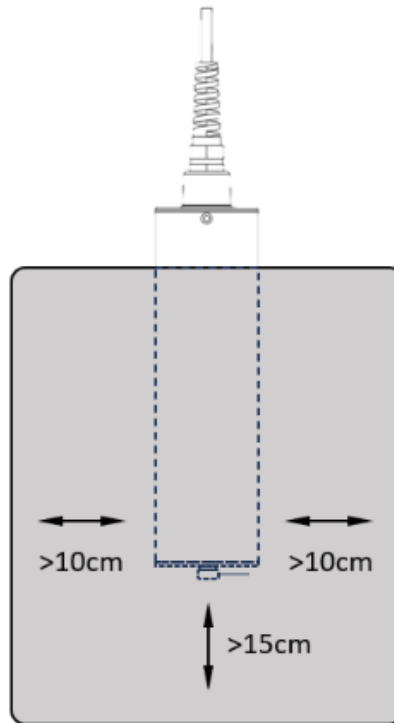

Figure 7A – Light Covered Oversized Bucket for Calibration with Sensor >15cm from bottom and >10cm from wall
2. Insert the sensor in an opaque oversized bucket and away from direct sunlight. The LT-63X series sensor should be calibrated with a minimum distance of >15cm from the bottom of water container to the lens of the sensor and a minimum of >10cm from the vessel wall on all sides. (as shown in Figure 7A). Add bubble-free deionized water or water with <1.0NTU of turbidity container and wait for the sensor reading to stabilize.
2. Remove and insert the LT-63X series sensor into an opaque oversized bucket and away from direct sunlight and >15cm from container bottom and walls (as shown in Figure 7A) and add the midpoint calibration solution (Please refer to the table in the previous section for the midpoint turbidity calibration range).
2. Remove and insert the LT-63X series sensor into an opaque oversized bucket and away from direct sunlight and >15cm from container bottom and walls (as shown in Figure 7A) Please refer to the table in the previous section for the highpoint turbidity calibration range).
2. Insert the sensor in an opaque oversized bucket and away from direct sunlight. The LT-63X series sensor should be calibrated with a minimum distance of >15cm from the bottom of water container to the lens of the sensor and a minimum of >10cm from the vessel wall on all sides. (as shown in Figure7A). Add bubble-free deionized water or water with <1.0NTU of turbidity container and wait for the sensor reading to stabilize.